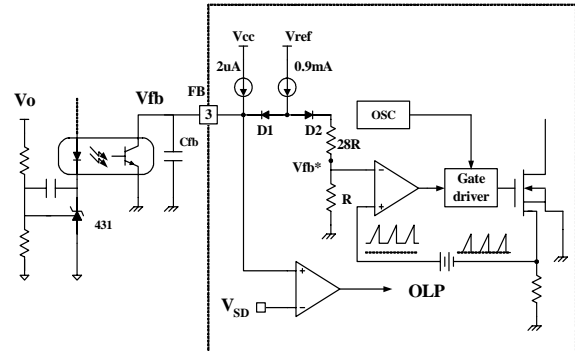

Figure 5. Pulse width modulation (PWM) circuit
2. Feedback Control : The FSDx0365RN employs current mode control, shown in figure 5. An opto-coupler (such as the H11A817A) and shunt regulator (such as the KA431) are typically used to implement the feedback network. Comparing the feedback voltage with the voltage across the Rsense resistor plus an offset voltage makes it possible to control the switching duty cycle. When the reference pin voltage of the KA431 exceeds the internal reference voltage of 2.5V, the H11A817A LED current increases, thus pulling down the feedback voltage and reducing the duty cycle. This event typically happens when the input voltage is increased or the output load is decreased.